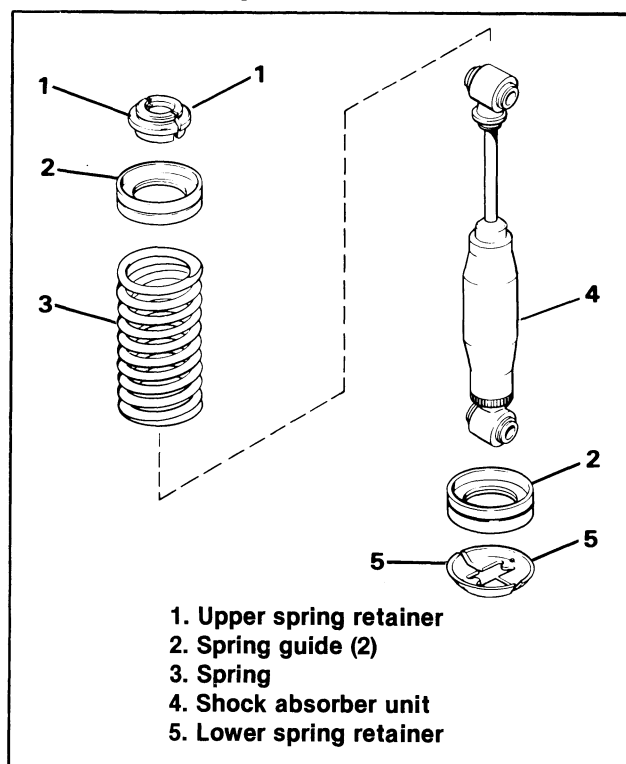

Figure 2-25. Front Shock Absorber
1. Compress shock spring enough to remove each half of upper spring retainers (1).
2. Release spring compressor and remove shock absorber from tool. Remaining items can be removed as shown in Figure 2-25.
Assembly (Figure 2-25)